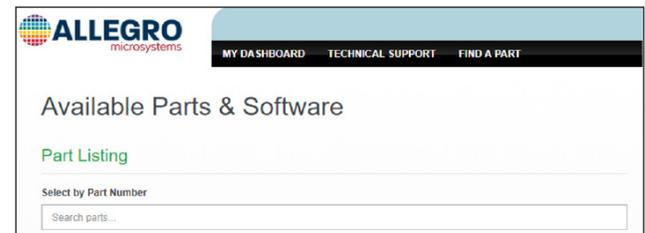

Figure 4: “Select by Part Number” on the Available Parts & Software page
5. Search for “ACS71240” in the “Select by Part Number” search bar shown in Figure 4.